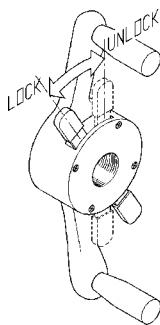

Figure 11
4. Tighten Quick-nut securely with both hands. To operate the Quick-nut pull the lock-unlock lever (Fig.11). Slide the Quick-nut on the threaded shaft. When in contact with the rim, release the unlock lever and tighten firmly. To assist in centering the wheel properly, rotate the wheel on the shaft while tightening the quick nut.